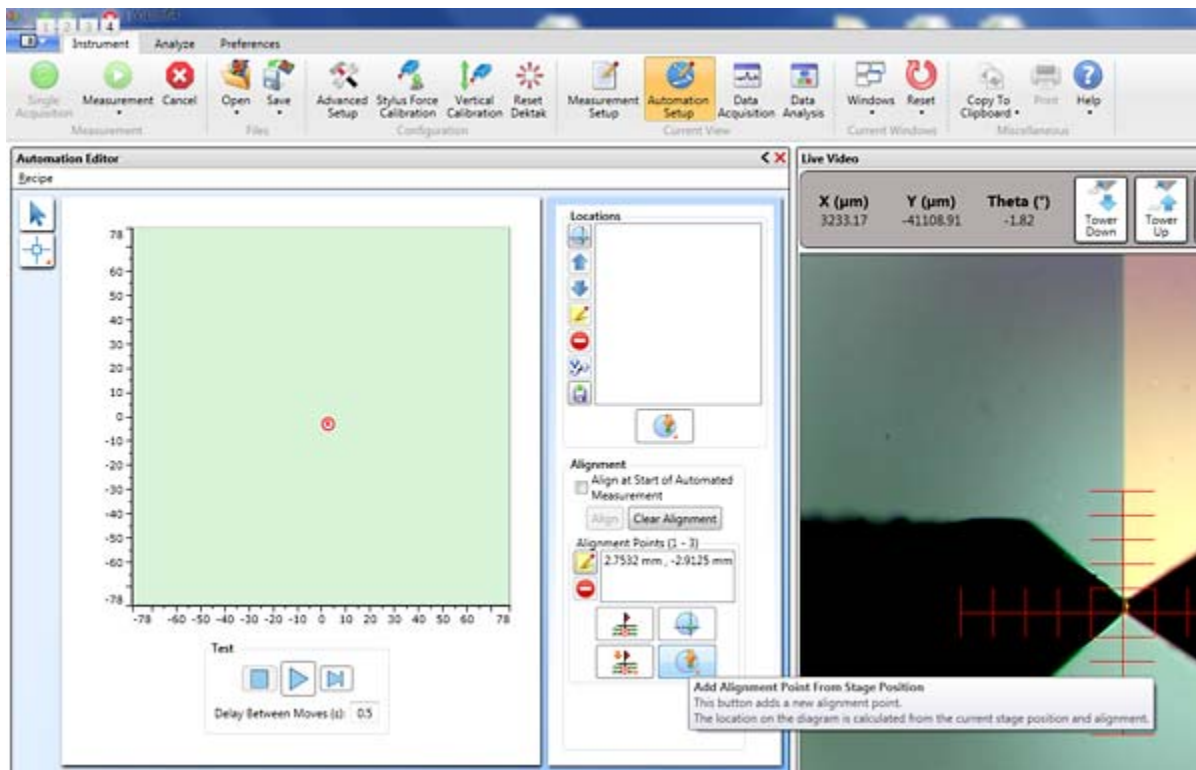

Figure 5-4: Setting the Deskew Alignment Point
- d. In the Automation Editor, click the **Add Alignment Point From Stage Position** button. A solid red circle now appears at that location (see Fig. 5-4 Setting the Deskew Alignment Point).